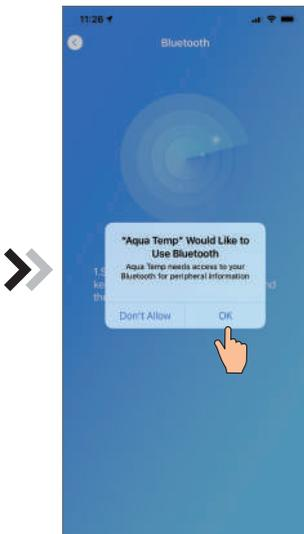

Fig.10 Searching device interface
4. Click ⑮ to bond device (Fig. 10);